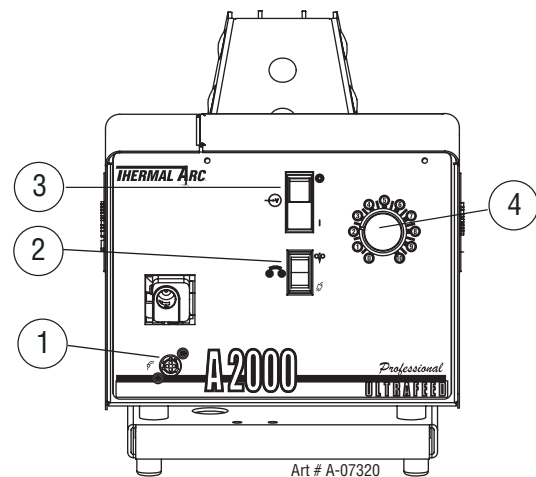

Figure 4-1: Front Panel Controls and Connections
5. Turn the welding machine and wire feeder ON, and set the wire feed speed control to midrange (Refer to Figure 4-1). Remove contact tube from welding gun. Refer to the Gun Manual. Press the gun switch or INCH switch until wire feeds out past the gas diffuser. Thread the contact tube over the wire and lock into place and tighten. Cut wire off at about 1/4 inch (6 mm) from the nozzle.